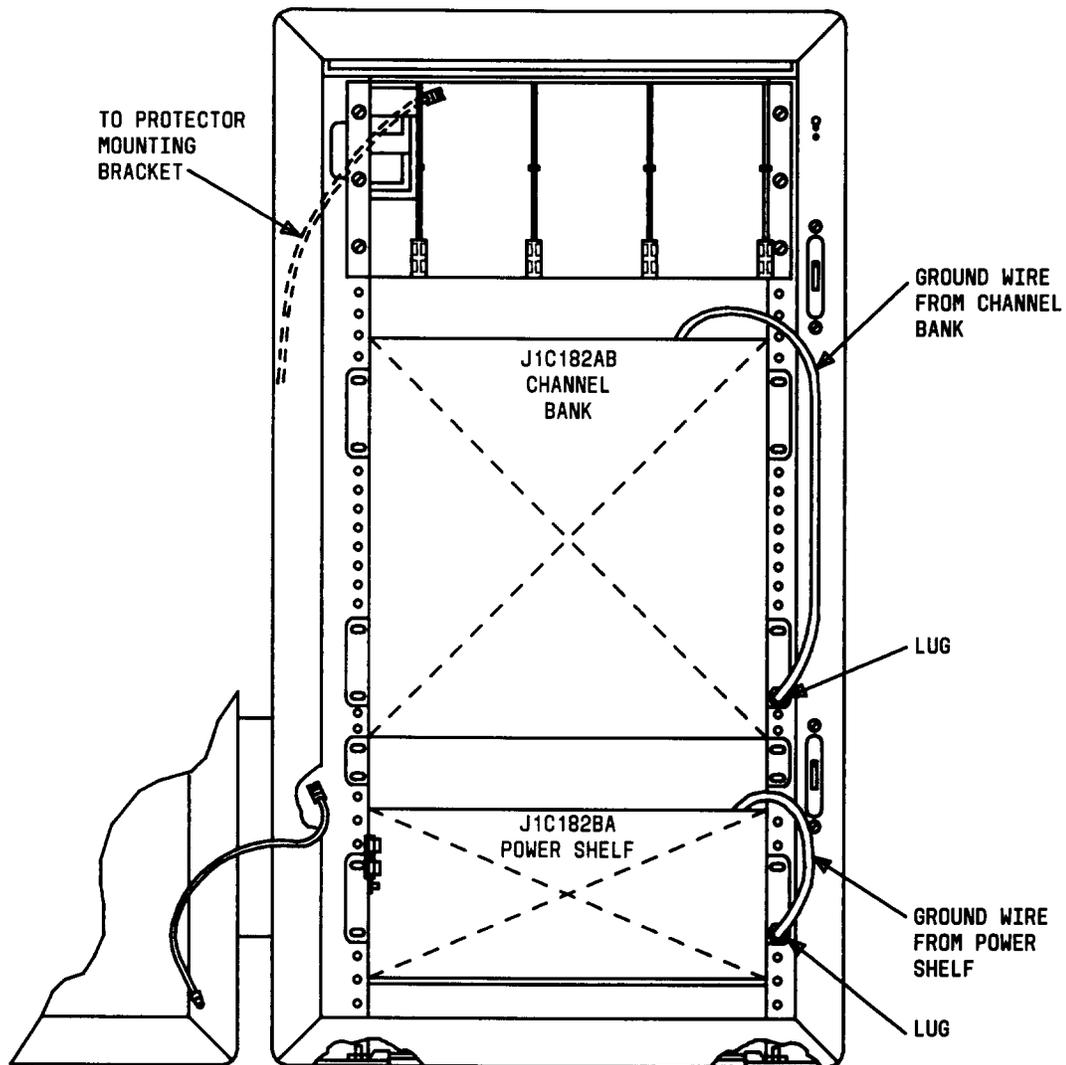

Fig. 2—Equipment Grounding for 51-Type Cabinet
4. From protector panel, verify that ground wire has been properly attached at ground lug area (Figure 2).
5. Verify that power shelf and channel bank ground wire terminals have been connected (Figure 2).